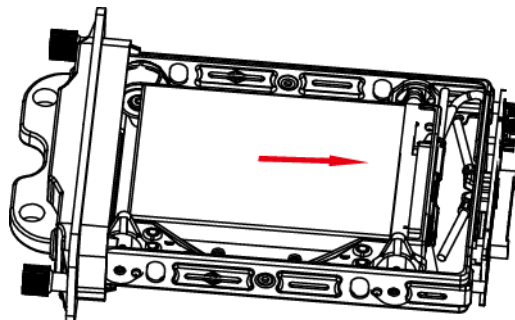

Figure 2-9 Push HDD
Step 6 Push the HDD along the direction shown in Figure 2-9 to connect HDD with socket of dummy HDD.